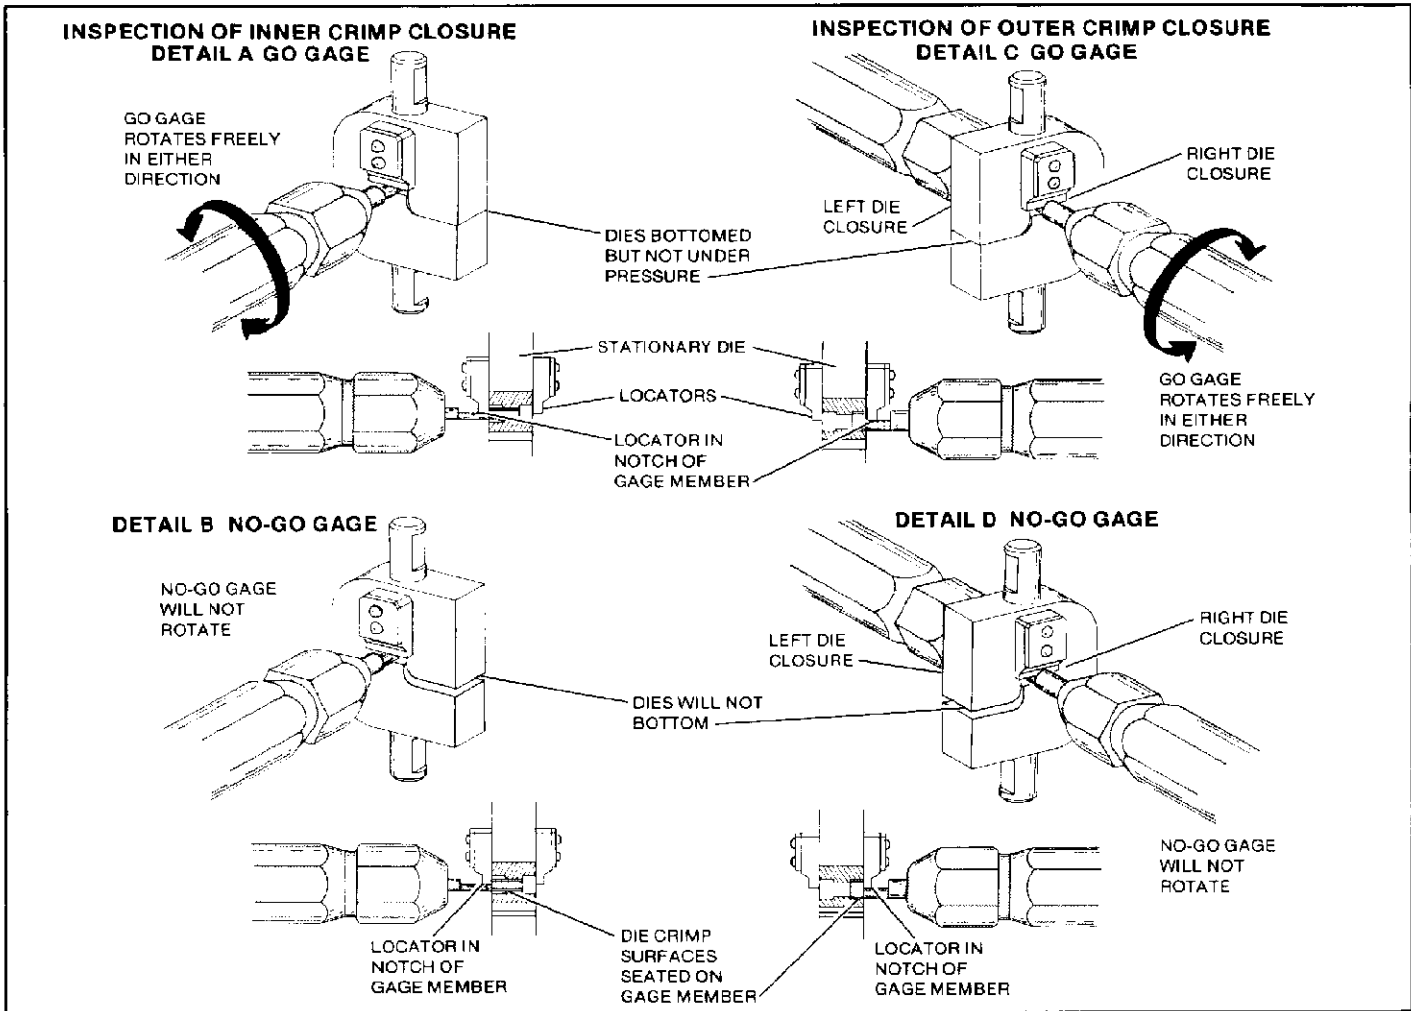

Figure 9
- Select the proper GO gage. Position gage member in inner crimp closure of stationary die so that locator is in notch of gage member. See Figure 9, Detail A.
- To meet the GO gage conditions, the plug gage must be able to be rotated freely in either direction as shown in Figure 9, Detail A.
- Select the proper NO-GO gage. Position gage member in inner crimp closure of stationary die so that locator is in notch of gage member. See Figure 9, Detail B.
- (g) To meet the NO-GO gage conditions, die bottoming surfaces will NOT bottom, and NO-GO gage member will be held stationary (will not rotate) by the dies. See Figure 9, Detail B.
- (h) Inspect the right and left outer crimp closures in the same manner as steps (b) thru (g). See Figure 9, Details C and D.